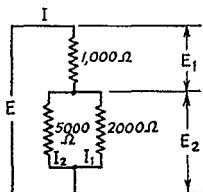

Fig. 3
**Procedure:** Connect the resistors as shown in Fig. 3, and apply the full voltage from the power supply. Measure the currents and voltages as indicated. A typical set of data would be as follows: